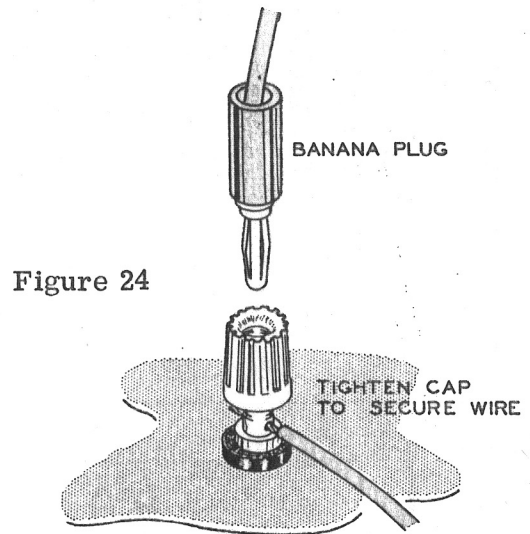

Figure 24
- ( ) Occasionally it is necessary to connect two leads to the same terminal of an amplifier. When this is necessary, hookup wire can be used under the binding post cap and a lead with banana plug can be plugged in the top of the binding post, as shown in Figure 24. By using different colors of wire, circuits may be traced more readily.